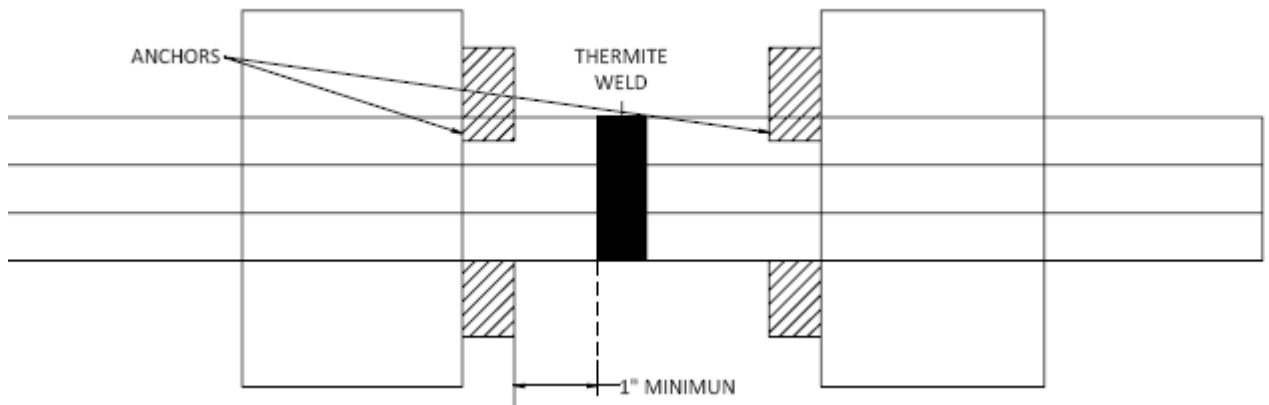

Fig. 31.1 Minimum Anchor Distance from Tie
31.5 Anchors must not be placed closer than one (1) inch from the edge of a completed Thermit[®] weld. (Figure 31.1)